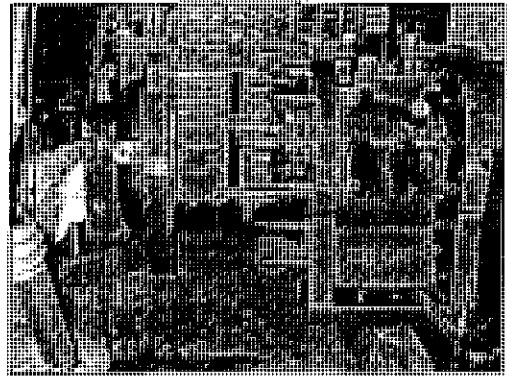

Fig. 3-32
- Combine Side Casing (B04) with Discharge Casing (B03) (Fig. 3-32).